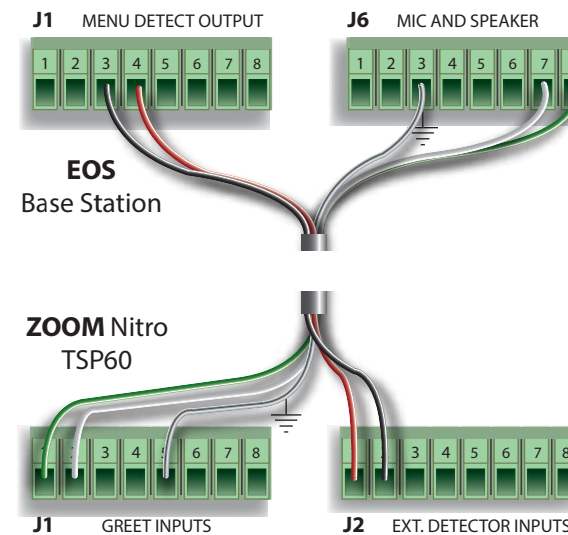

Fig. 2.3
- B** For EOS: Connect the Green and White wires from J6-7&8 on the base station to the Greet1 terminals J1-1&2 on the TSP (see Fig. 2.3). With polarized terminals, always connect +ve to +ve and -ve to -ve. Connect the